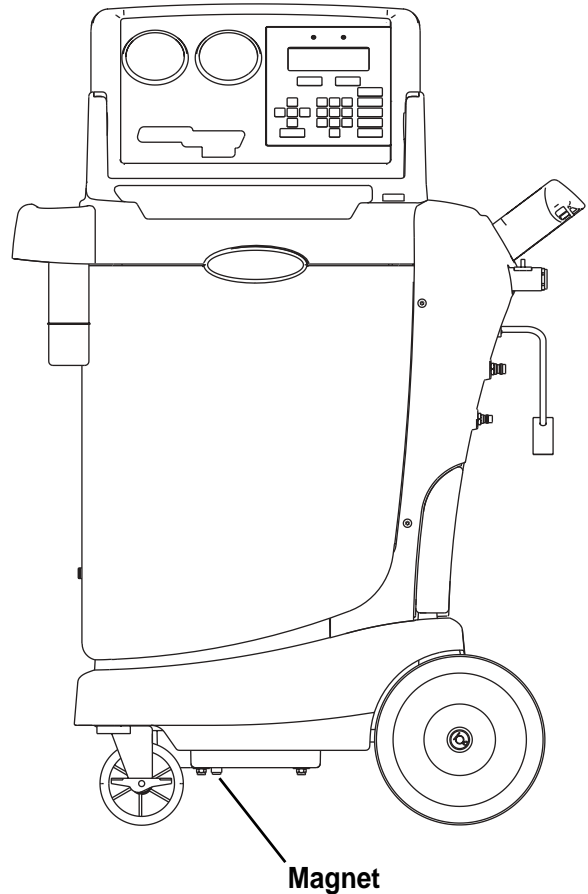

Figure 14
3. Refer to Figure 14, and verify the magnet on the bottom of the unit is clean. Press **START / YES**.